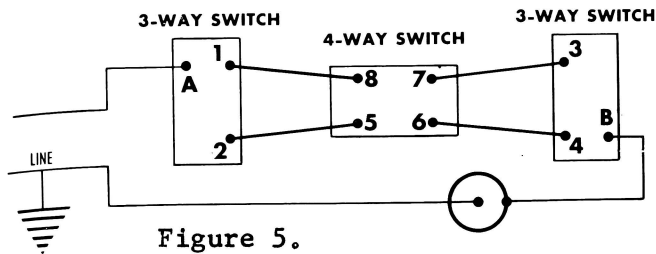

Figure 5.
In Figure 5, draw light pencil lines on the 4-way switch, making connections (5)-(6) and (8)-(7). Now you can see that the circuit connects the two 3-way switches. Now, erase the pencil lines you made on the 4-way switch, and lightly draw in the other connections: (5)-(7) and (8)-(6). You can see that complete paths still exist between the 3-way switches. The light, therefore, can be turned on or off at either 3-way switch, or at the 4-way switch wired between the two.